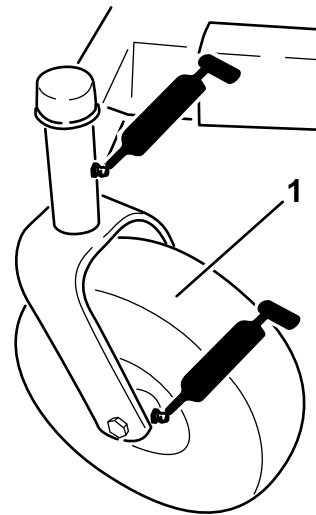
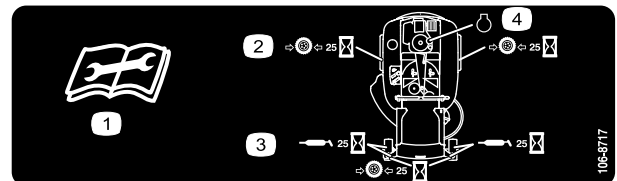

Figure 19
Figure 20
3. Clean the grease fittings (Figure 19 and Figure 20) with a rag. Make sure to scrape any paint off of the front of the fitting(s).
4. Connect a grease gun to each fitting (Figure 19 and Figure 20). Pump grease into the fittings until grease begins to ooze out of the bearings.